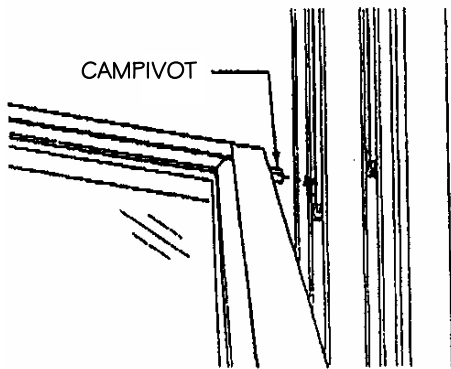

FIGURE 9
7. Install the top sash first. Holding the right side slightly lower than the left, insert the right campivot into the exterior track. **Make sure campivot is above the camlock assembly.** See Figures 9 and 10.